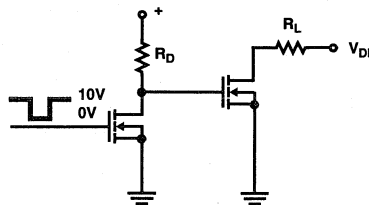

FIGURE B-3. COMMON-SOURCE GATE-DRIVE CIRCUIT
**Case 3: Common-Source Gate Drive, Figure B-3**